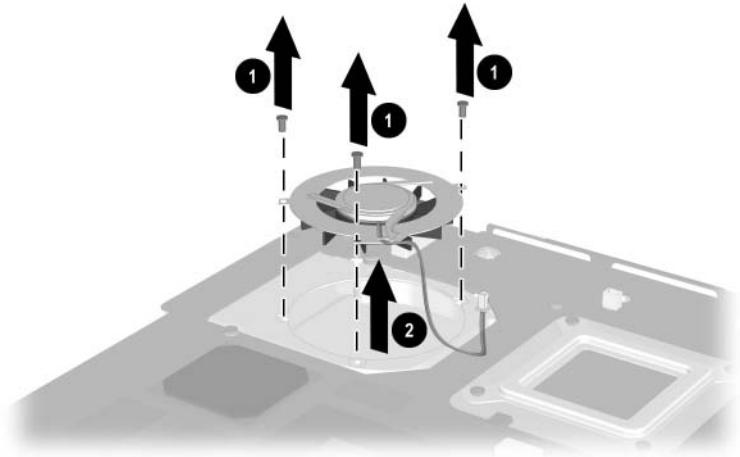

Figure 5-30. Removing the Fan on Evo Notebook N620c, N610c, and N610v Models
8. Remove the three PM2.0 $\times$ 4.0 screws ❶ that secure the fan to the heat sink (Figure 5-30).
9. Lift the fan out of the heat sink ❷.